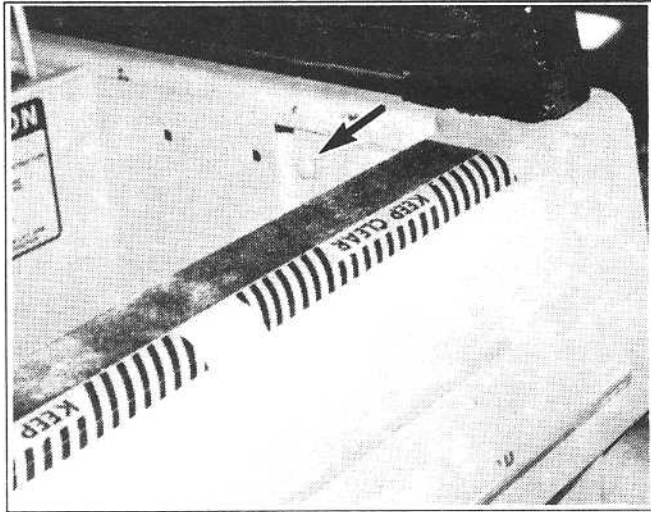

Figure 3-8
Model 960: At left side - two (2) carriage bolts through T-Bar panel flange to inner wall of frame. Reach between the inner and outer frame wall at front of machine to remove the 3/8 inch "flanged" nuts. (See figure 3-8 on page 3-5)